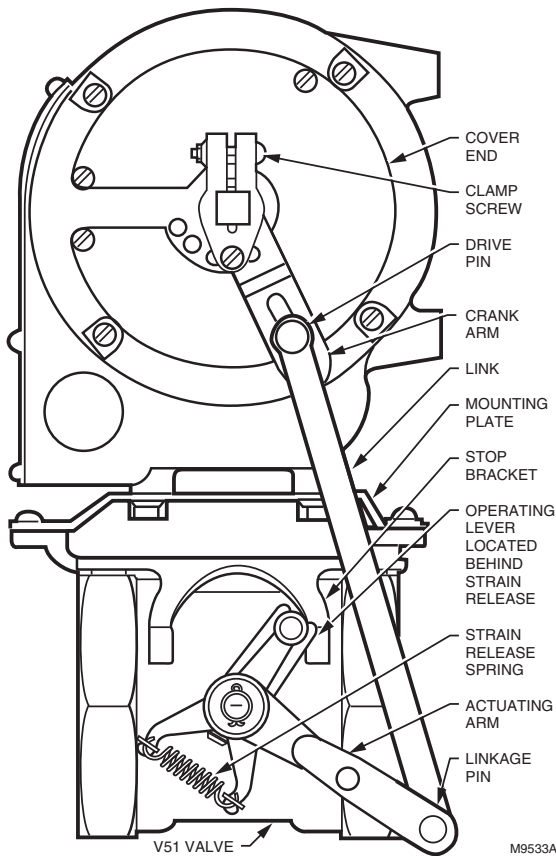

Fig. 10. Typical combination of V51E, Actionator Motor, and Q100C Linkage Assembly.
Installing Actionator Motor and Q100C Linkage on V51E (Fig. 10)
6. Add the ball joint assembly and push rod as shown in Fig. 10.
Actionator Motor with Q100C Linkage and V51E (Fig. 10)